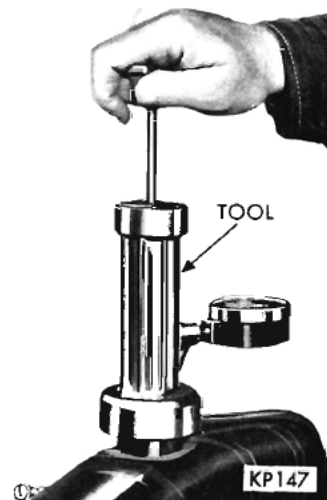

Fig. 13—Pressure Testing the Cooling System
(1) For testing purposes only, fill the radiator to within ½ inch of the filler neck.
(2) Wipe the filler neck sealing surface clean.
(3) Attach a tester Tool C-3499 to the filler neck and apply 15 psi pressure (Fig. 13).